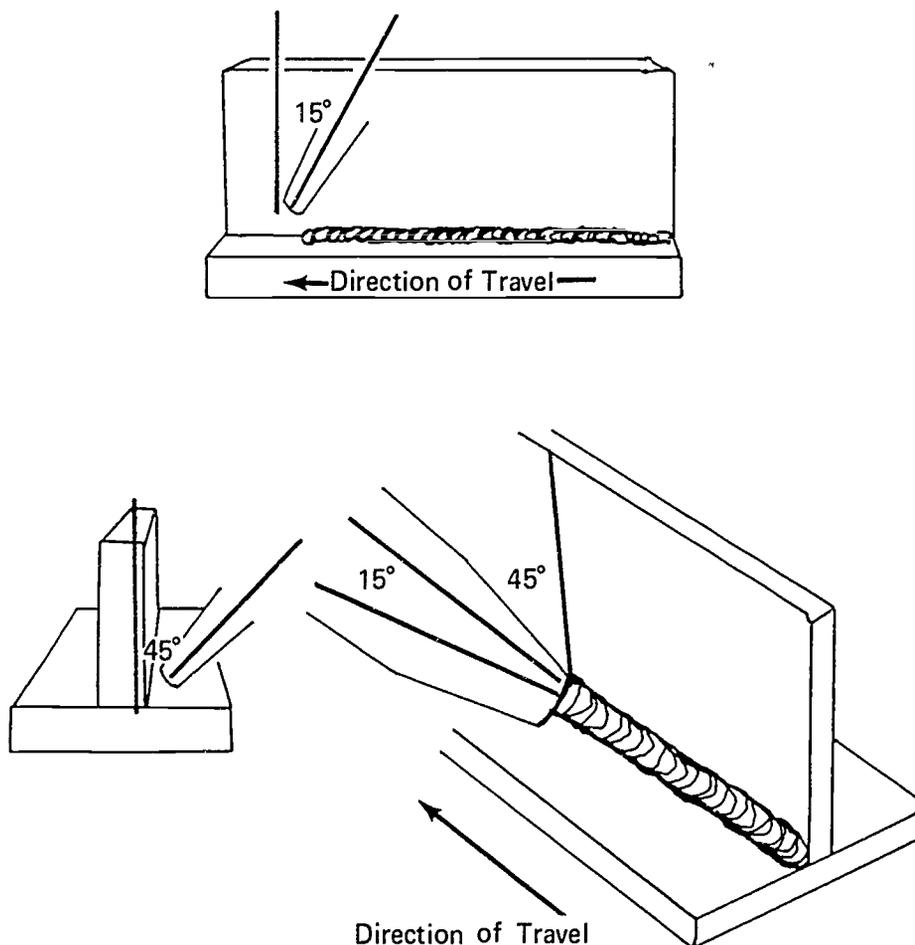

FIGURE 3
- G. Position gun nozzle at a 45° degree angle from vertical plate and 15° back from direction of travel welding from right to left (Figure 3)